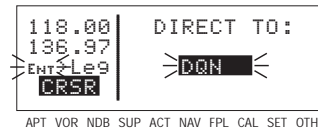

Figure 4-137
3. Press **[▶]**. The display will change to the Direct To Page (figure 4-137), with the identifier of the selected waypoint.